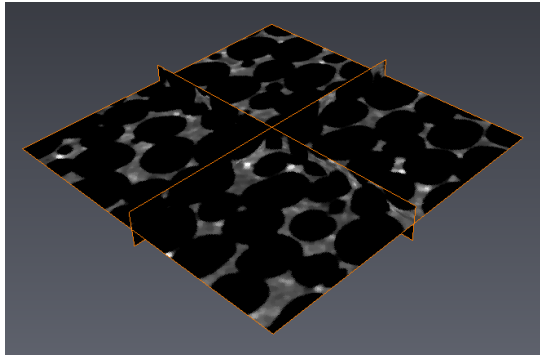

Figure 4.3: After removing noise with a median filter.
- Attach the three *Ortho Slice* to the resulting image. To do so, change the *Data* of each slice in the Properties panel. See the resulting display on Figure 4.3.